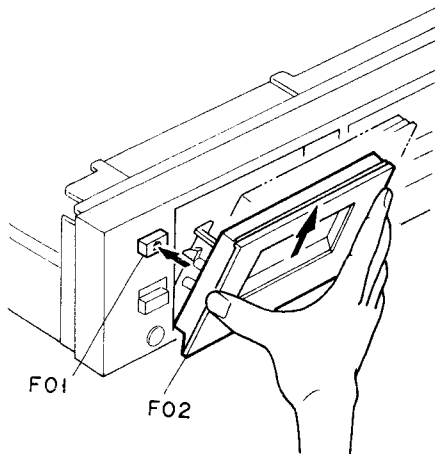

Fig. 2.2
2.2. Cassette Case Cover Ass'y Refer to Fig. 2.2.